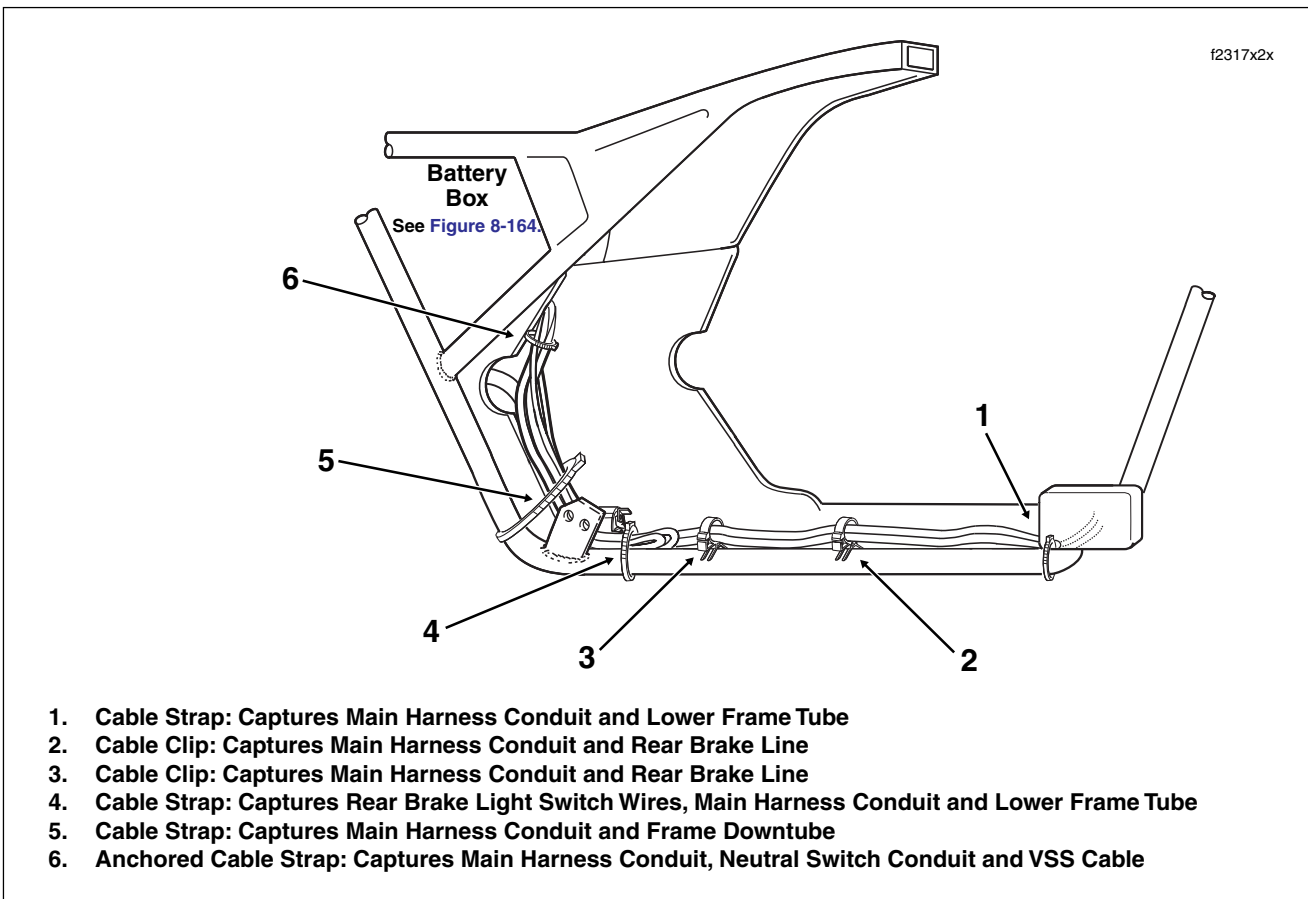

Figure 8-165. Cable Strap Locations (Right Side View)
22. Cut cable strap to free main harness conduit (leading to oil pressure sender and CKP sensor connectors) from inboard side of rear brake pedal weldment. See Figure 8-165.
21. Install **new** anchored cable strap in hole of frame downtube (inboard of rear swingarm bracket) capturing VSS cable, main harness and neutral switch conduit. See Figure 8-165.
26. Route main harness conduit inboard of rear brake pedal weldment. Capturing main harness conduit and lower frame tube, install **new** cable strap through opening in rear brake pedal weldment. See Figure 8-165. Cut any excess cable strap material.